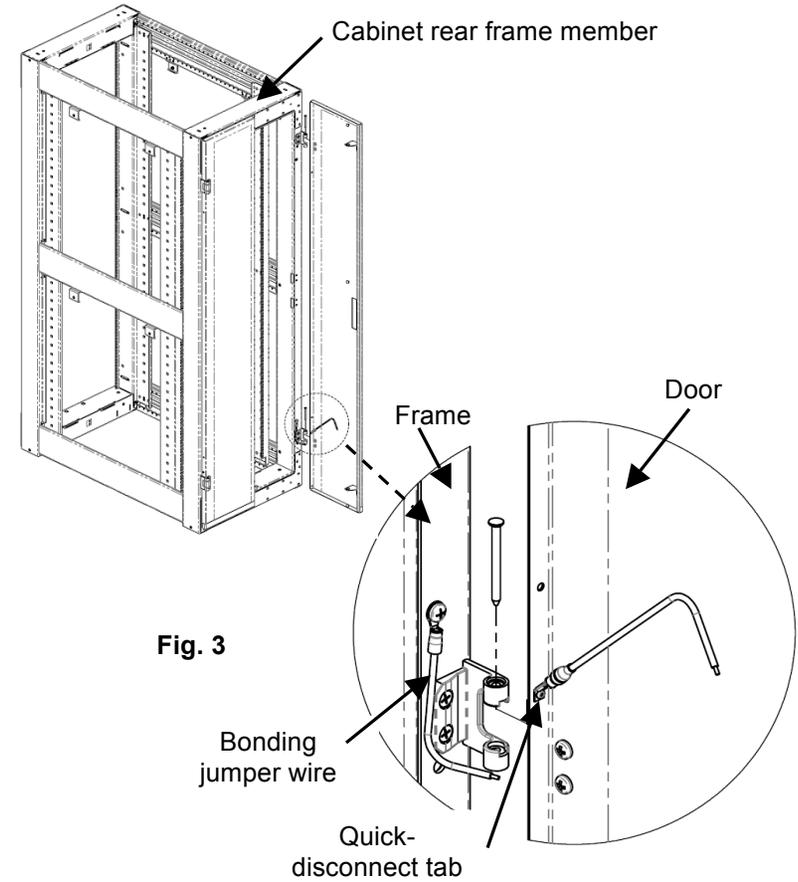

Fig. 3
6. Electrically bond the doors to the cabinet frame by plugging the quick-connect end of the bonding jumper wire onto the quick-connect tab nearest the bottom door hinge (Fig. 3).
7. To remove the doors, unplug the quick-connect end of the bonding jumper wire from the door. With the door closed, remove the hinge pins by pushing the pins up from the bottom with a tool such as a small screwdriver. Hold the door firmly with a hand on each side. Open the door until it is perpendicular to the cabinet and slide the door out of the hinges. Repeat for the other door (Fig. 3).